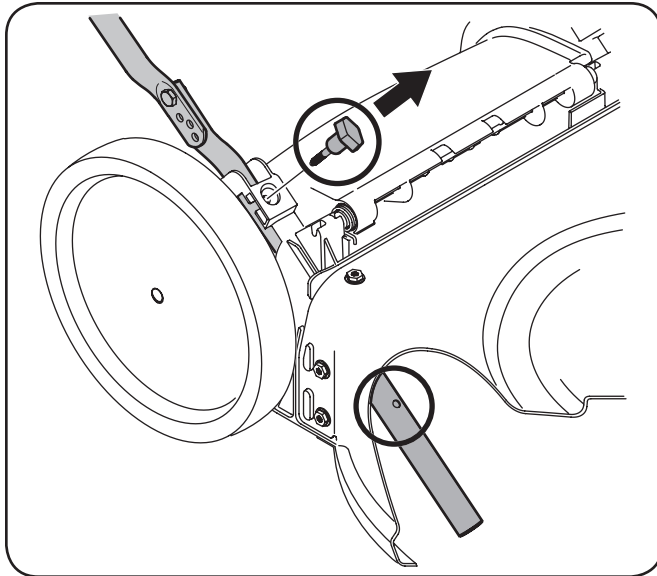
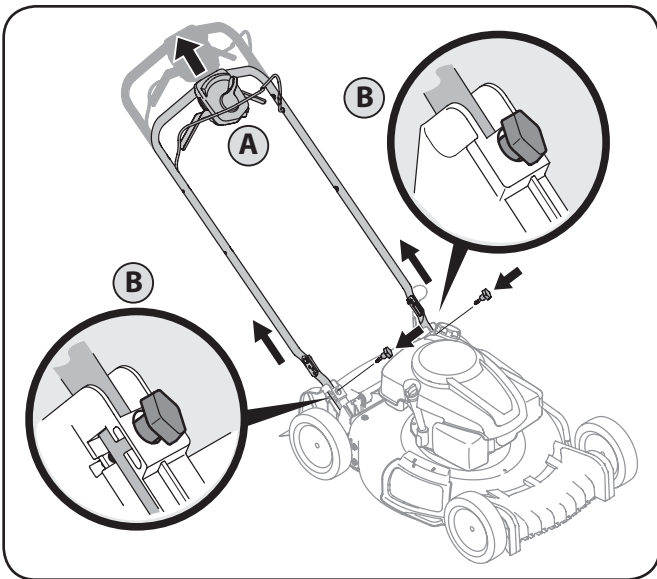

Figure 3-3
Figure 3-4
2. Remove the T-bolts from the handle brackets as shown in Fig. 3-3.
- a. Pull upward on the handle approximately 8 inches until holes in lower handle (shown in Fig. 3-3 deck cutaway) line up with holes in handle bracket. See Fig. 3-4.
- b. Insert the T-bolts removed earlier through the handle brackets and lower handle and tighten securely to secure the handle in place. See Fig. 3-4.